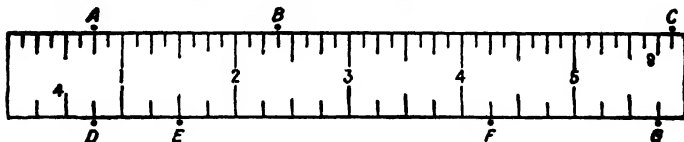

Fig. 3-7.
3. What are the readings in Fig. 3-7 at points A, B, C, D, E, F, and G?